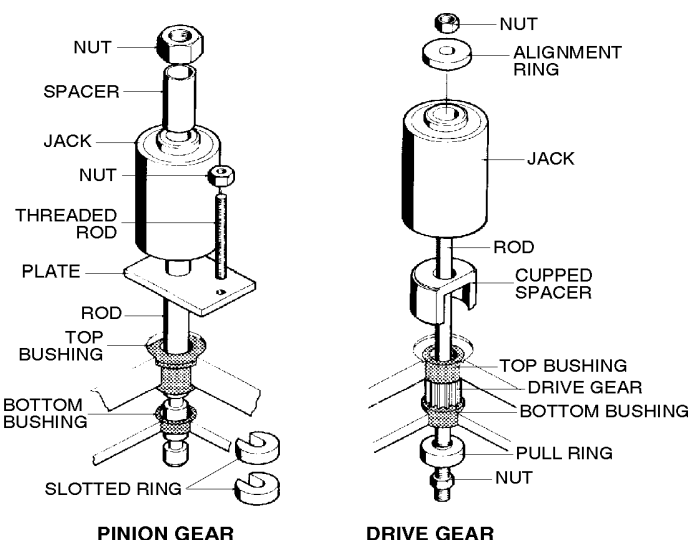

FIGURE 2. BUSHING INSTALLATION
7. To install the bushings, assemble the tool as shown in Figure 2.